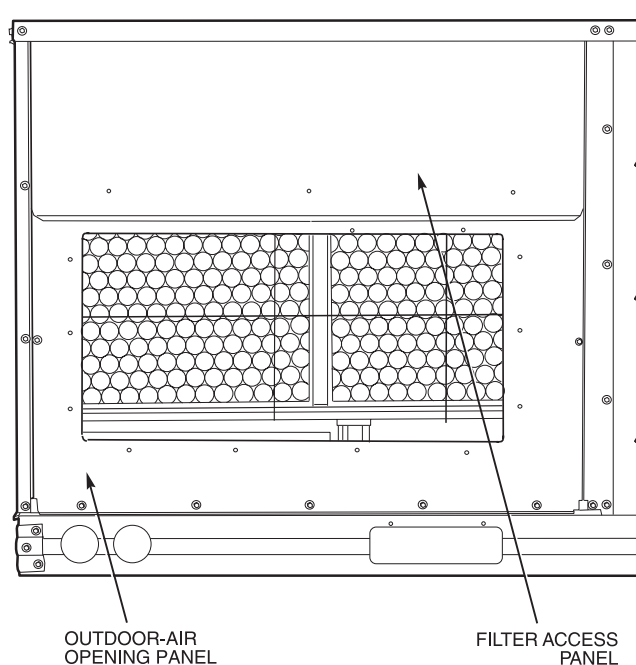

Fig. 20 — Panel Locations
2. Remove filter access panel by raising panel and swinging panel outward. Panel is now disengaged from track and can be removed. No tools are required to remove filter access panel. Remove outdoor-air opening panel. Save panels and screws. See Fig. 20. Remove optional outdoor-air damper hood package from filter section.